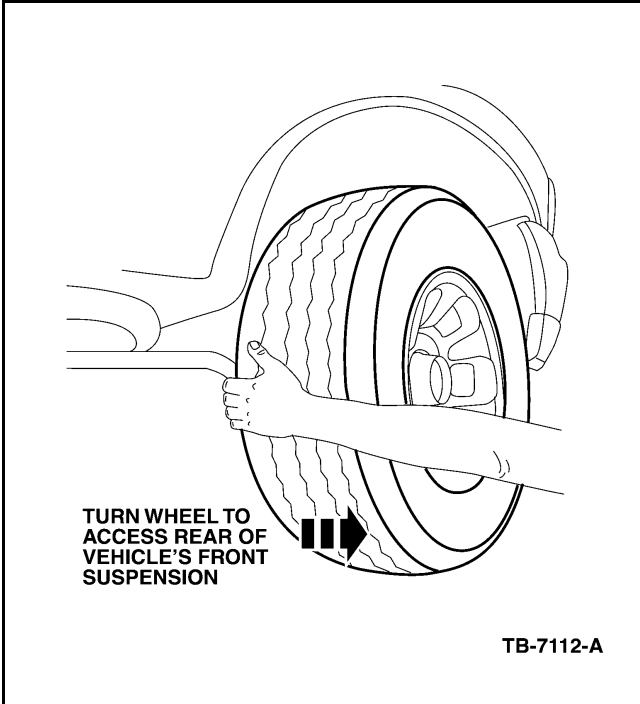

Figure 1 - Article 03-11-2
3. Turn the wheel to allow for easier access to rear of vehicle's front suspension (Figure 1).